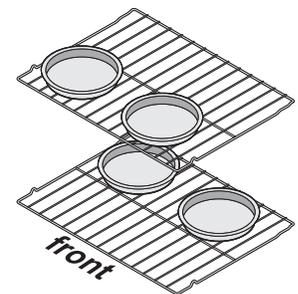

Figure 26: Pan spacing
- When baking using two oven racks, position cookware as shown in Figure 26.